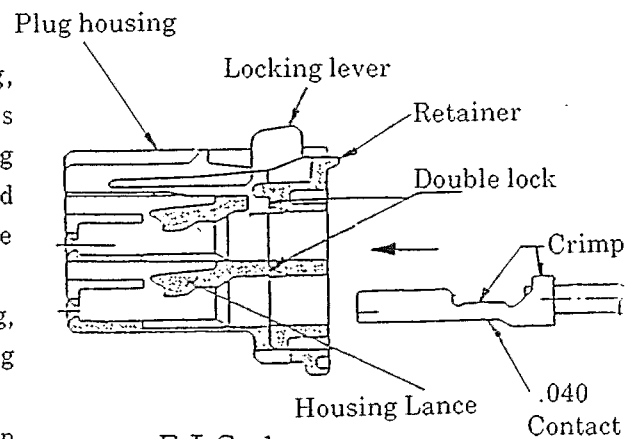

FIG 1
- (1) Before loading contacts into the housing, verify that there are no incomplete crimps and then place the contact with the locking lever facing upward as shown in Fig. 1 and insert the contact straight until it stops at the end of housing cavity.